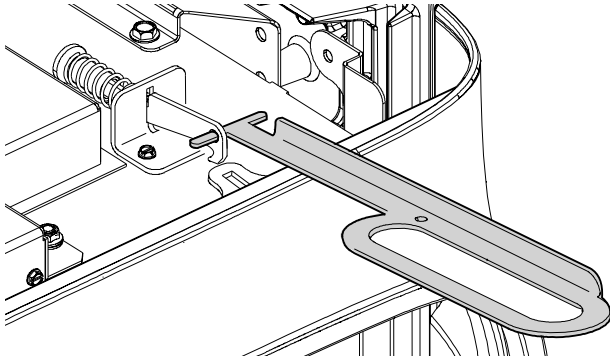

Figure 16.1. Use the Latch Tool to disengage both latches on the glass frame.
2. Use the Latch Tool to pull each latch hook forward to disengage them from the glass frame. See fig. 16.1.